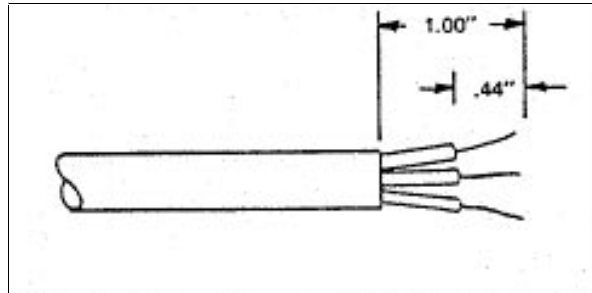

Figure 2-59. Preparing Cord for New Plug
2. Remove the power cord jacket and strip the conductors as shown in figure 2-59. Avoid cutting the jacket more than 0.44 inch.